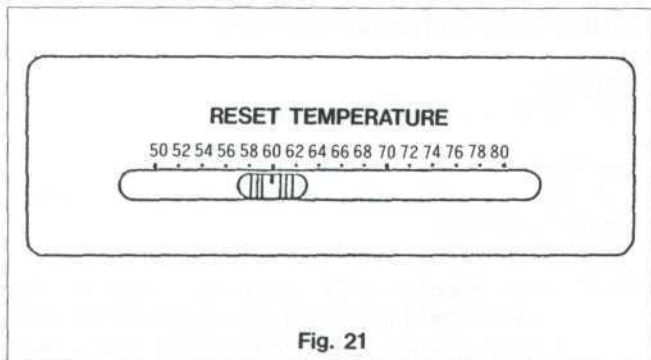

Fig. 21
*NOTE: If power to the heater is interrupted, a thud-like noise may be heard in the combustion chamber. This is normal, and should not cause alarm. For power interruptions of up to 5 minutes, the set memory is kept and will resume operation automatically with the set memory. For power interruptions beyond 5 minutes, your heater will resume operation (after a 3 minutes cool down period) in the MANUAL mode and maintain room temperature according to the setting temperature you've selected by using the slide selector for the reset temperature at the lower right hand side of the cabinet (Figure 21). When the TIME Button is pressed or the TIMER SELECTOR Button is pressed to illuminate the CLOCK SET Light, The Display Window will show 88:88 indicating the need to reset the clock and re-program the heater for automatic operation.*